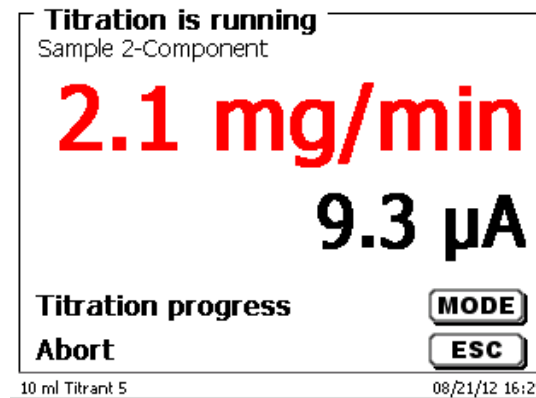

Fig. 76
- or the drift with the measured value in μA (Fig. 76),